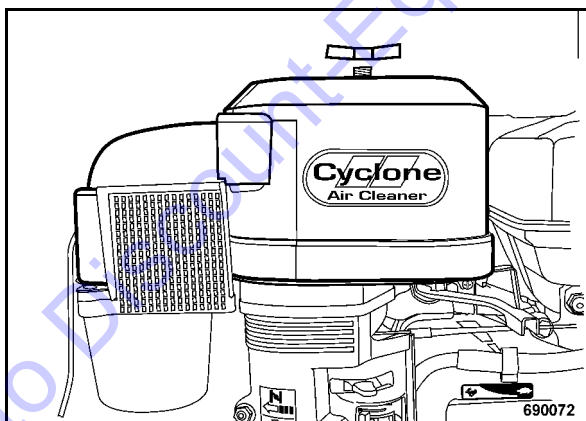

Fig. 42
- Unscrew the wing nut and remove the air filter cover (Fig. 42).